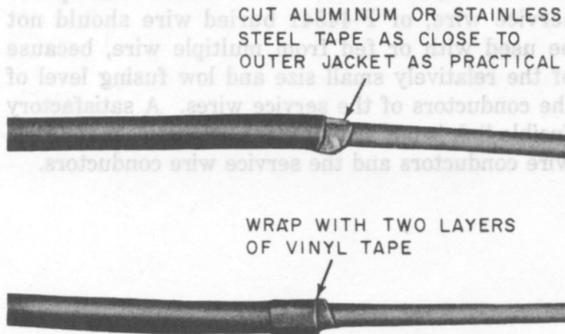
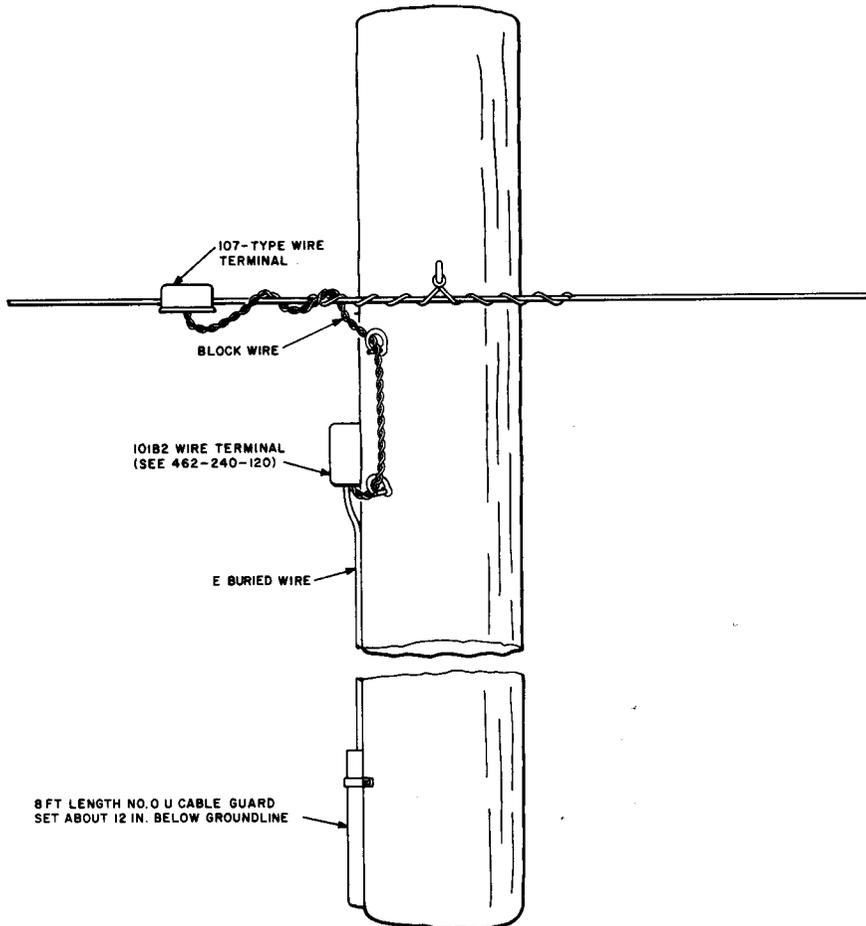
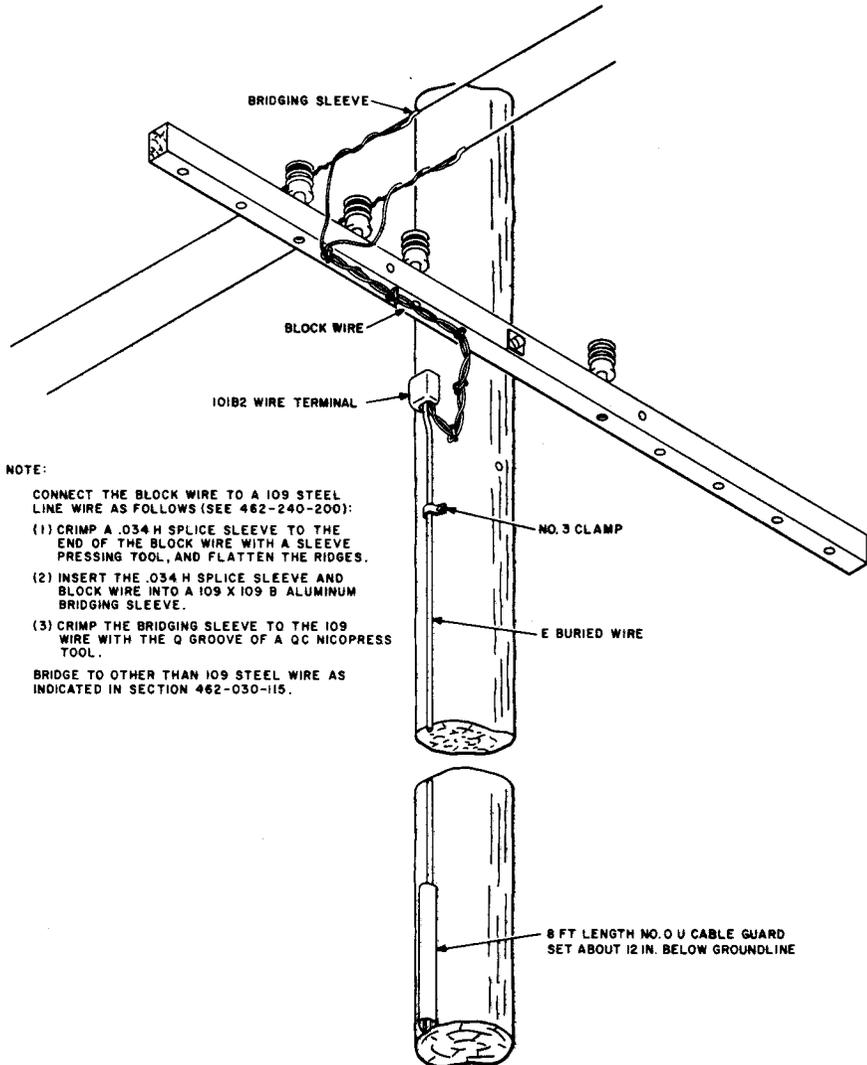

Fig. 3—Removal of Aluminum or Stainless Steel Tape
Fig. 7—Termination of E Buried Wire and Rural Wire
Fig. 8—Termination of E Buried Wire and Open Wire
2.04 Where the buried wire is 500 feet or less in lengths, grounding of the metallic shield at the cable terminal is omitted. Cut off the metallic shield and wrap with two turns of vinyl tape to protect against sharp edges (Fig. 3).
3.02 E buried wire can be used with or fed from multiple wire where the multiple wire is exposed to power contact and fuseless station protection is used. E buried wire should be brought up a pole and terminated in a 101B2 wire terminal. The metallic shield should be cut back and taped as shown in Fig. 3. Connect the
4.02 At the junction with C rural wire, E buried wire can be brought up a pole and terminated in a 101B2 wire terminal. The metallic shield should be cut off and taped as shown in Fig. 3. Block wire should be used to bridle between the 101B2 wire terminal and the 107-type wire terminal on the C rural wire. At the groundline the E buried wire should be covered with an 8-foot length of No. 0 U cable guard. A typical installation is shown in Fig. 7.
5.02 At the junction with open wire, E buried wire can be brought up a pole and terminated in a 101B2 wire terminal. The metallic shield should be cut off and taped as shown in Fig. 3. Block wire must be used between the protector and the open wire. At the groundline the wire should be covered with an 8-foot length of No. 0 U cable guard. A typical installation is shown in Fig. 8.